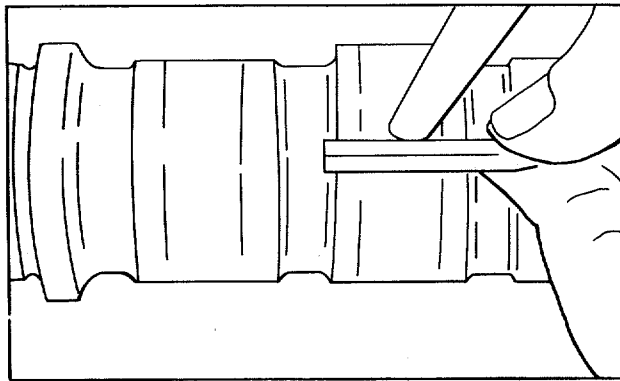

Figure 4. Checking Cam Lobe Wear
1. With a tapered leaf set of feeler gages (0.0015-0.0100 inch) and a piece of square hard material $1/8 \times 3/8 \times 1$ inch measure the flat on the injector rise side of the cam lobes (Fig. 4).